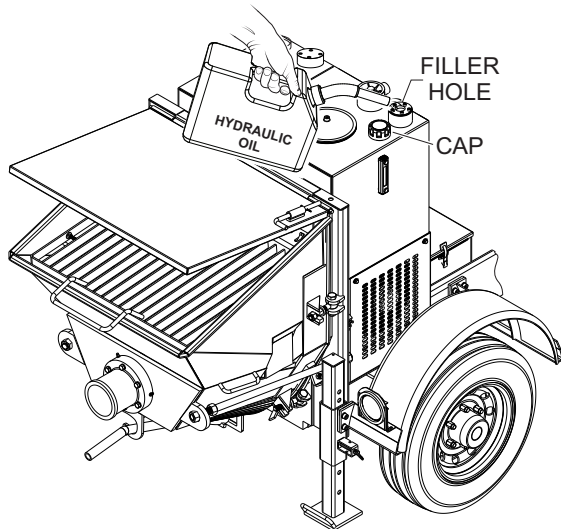
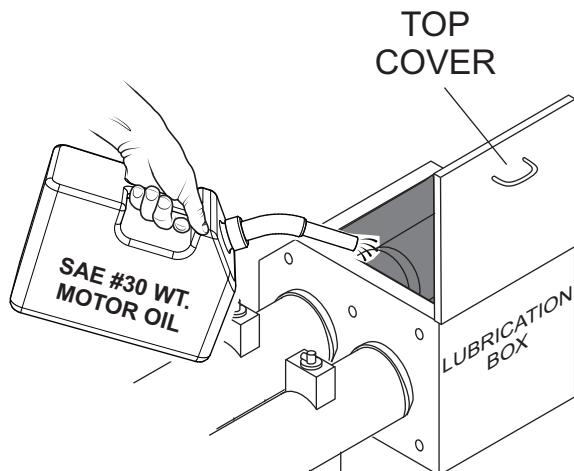

Figure 14. Adding Hydraulic Oil (Filler Hole)
Figure 15. Filling the Lubrication Box
2. If the hydraulic oil level is low, remove the hydraulic oil tank cap just above the oil level sight glass (Figure 14) and add the correct amount of hydraulic oil to bring the hydraulic oil level to a normal, safe operating level. Use Shell Oil Tellus 46.
3. Check the oil level in the **lubrication box** (Figure 15). If low, fill with up to 4.4 gallons of SAE #30 motor oil (Figure 14). The oil level must be checked daily. The lubrication box should be serviced as described in the Maintenance section.